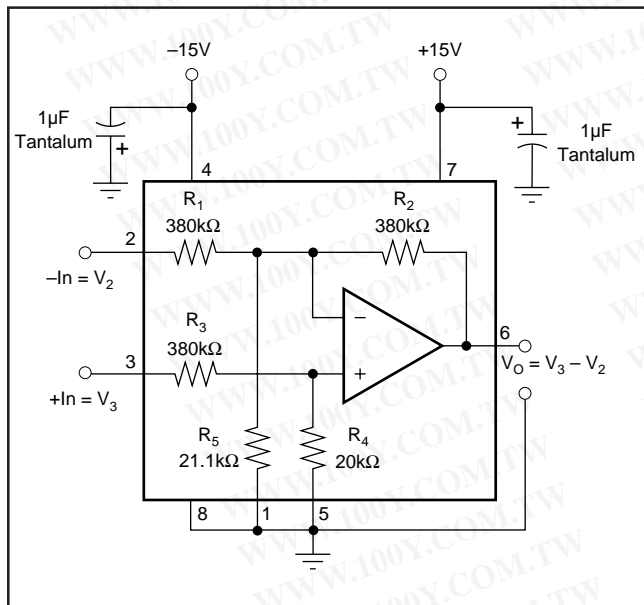

FIGURE 1. Basic Power and Signal Connections.
NOTES: (1) Connected as difference amplifier (see Figure 1). (2) Nonlinearity is the maximum peak deviation from the best-fit straight line as a percent of full-scale peak-to-peak output. (3) With zero source impedance (see discussion of common-mode rejection in Application Information section). (4) Includes effects of amplifier's input bias and offset currents. (5) Includes effects of amplifier's input current noise and thermal noise contribution of resistor network.
Figure 1 shows the basic connections required for operation. Applications with noisy or high impedance power supply lines may require decoupling capacitors close to the device pins.